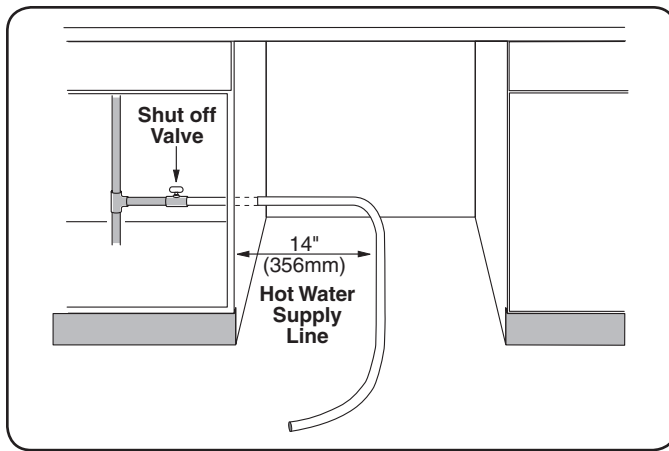

Figure 6
Install an easily accessible shut-off valve (not supplied) in the hot water supply line, as shown in **Figure 6**. All solder connections must be made before the water line is connected to the dishwasher's water inlet valve. Water may also be supplied to the dishwasher by using a stainless steel braided hose approved for dishwasher use. Check with your local plumbing supply sources for the proper hose and 90° elbow fitting.
**NOTE:** Regardless of where the hot water supply line enters the enclosure, position the line 14" (356mm) from the enclosure's left side, as shown in **Figure 6**.